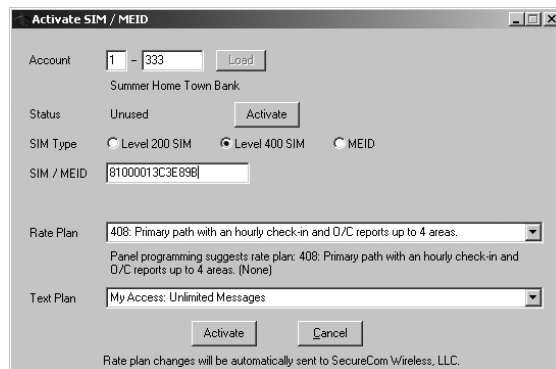

Figure 3: Remote Link Activation
- B. Select the rate plan for the 464-263C. See Figure 3.